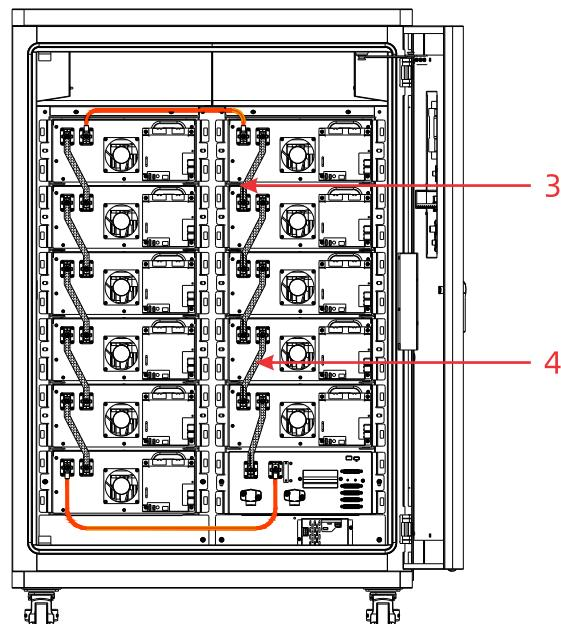

Figure-14 Battery cluster DC cable wiring diagram (picture is for reference only)
2). According to the wiring position of Figure-14, connect the No. 3 series DC copper bar to each cluster first, then connect the No. 1 serial DC cable, then connect the No. 4 serial DC copper bar, and finally connect the No. 2 cable.